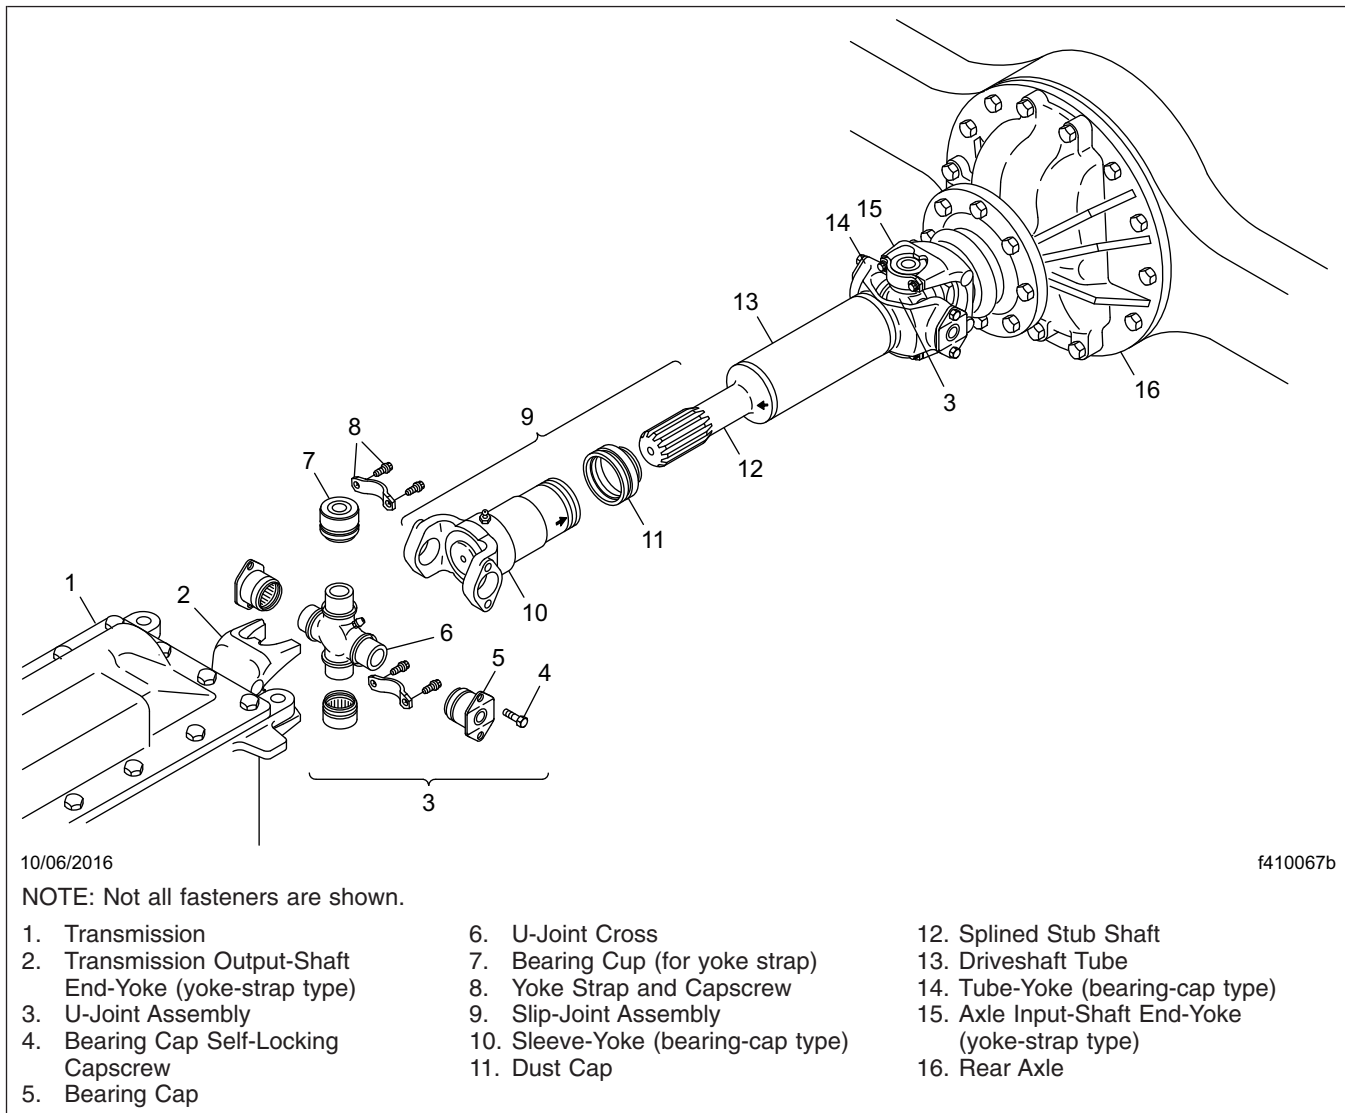

Fig. 3, Components of a Basic Driveline
3. Check the driveline yokes or flanges for cracks, and check end-yokes for looseness. See Fig. 3.